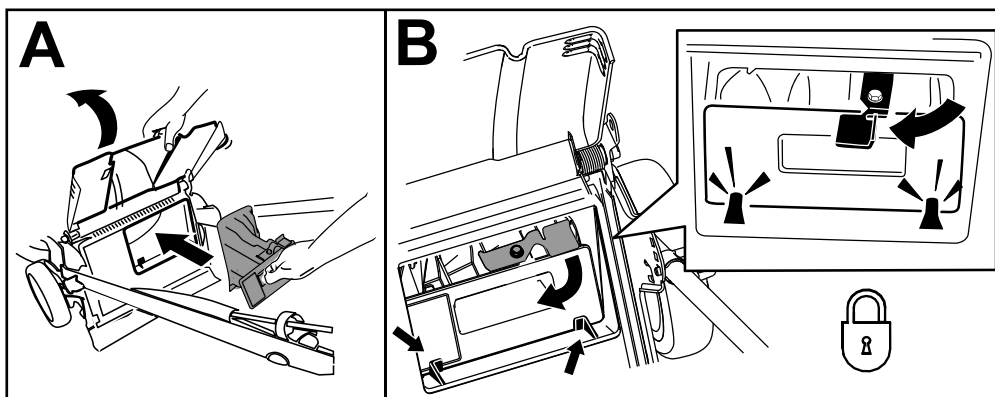

Figure 25
**Important:** Ensure that the rear plug is locked in place. To lock the plug, raise the rear deflector (Figure 25), firmly push the plug in until it snaps into place behind the tabs, and rotate the lever on the plug to the left (Figure 25).